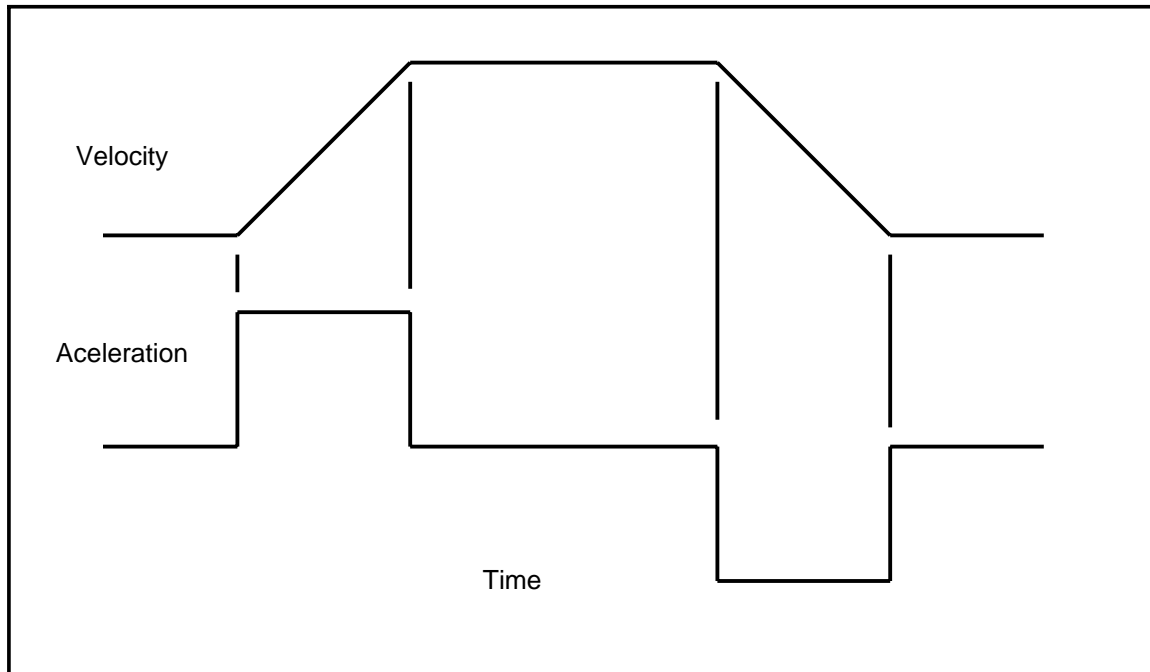
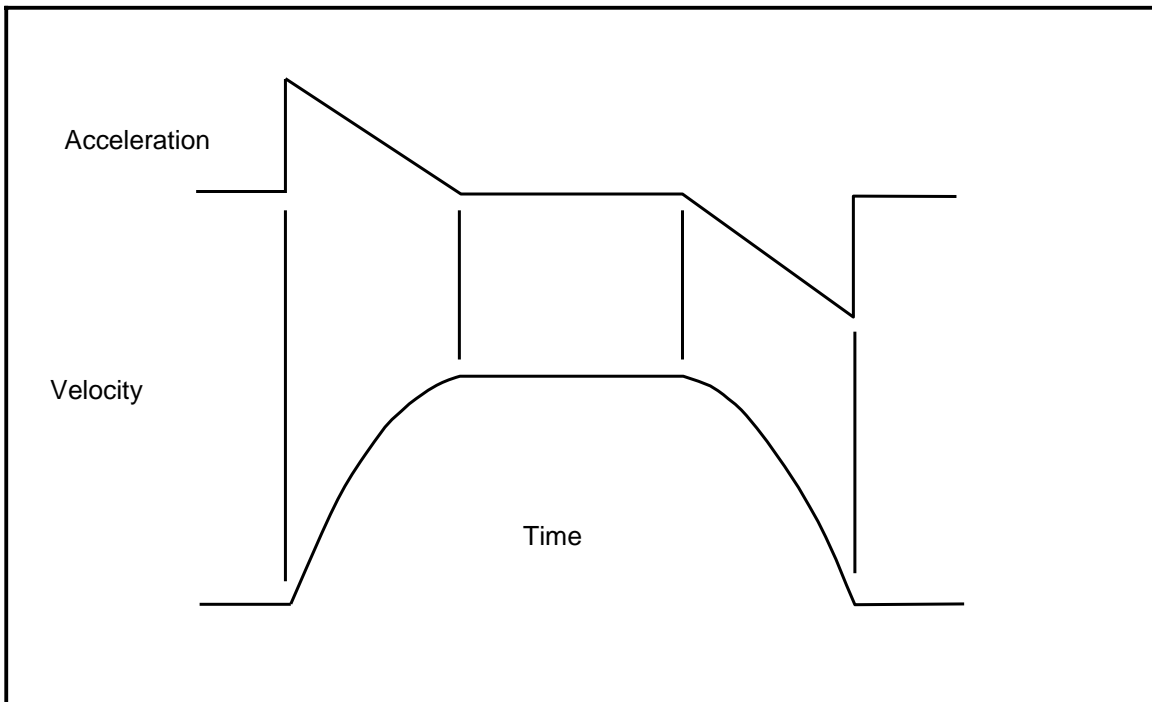
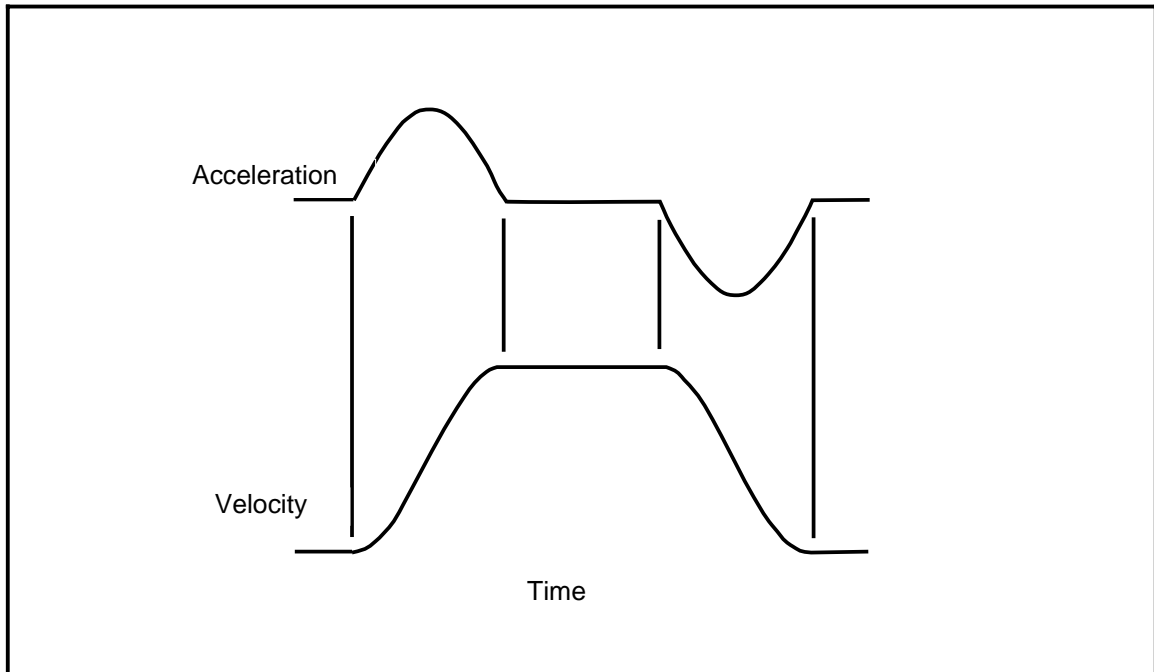

Figure 1-1 TYPICAL VELOCITY PROFILE
Figure 1-2 PARABOLIC VELOCITY PROFILE
Figure 1-3 COSINE VELOCITY PROFILE
The VME58 offers three options for ramping the device to speed. The traditional constant acceleration or linear velocity ramp (see Figure 1-1) is the default at power up or reset. The half sinusoid acceleration or half cosine velocity ramp (see Figure 1-3) is selected by the CN command. Since the acceleration is zero at the velocity inflection points, this offers very smooth operation. It is used in sensitive applications such as wafer handling on a vacuum chuck. The third option is a reverse ramp of acceleration or parabolic velocity curve (see Figure 1-2), which can be selected by the PN command. This ramp is commonly used to compensate for loss of motor torque at high speeds, i.e. since the acceleration is
**PARABOLIC RAMPS.** The parabolic ramp is generated in a similar fashion except the acceleration is reduced as the stage accelerates to speed thus reducing the velocity slope, as shown in Figure 1-2.